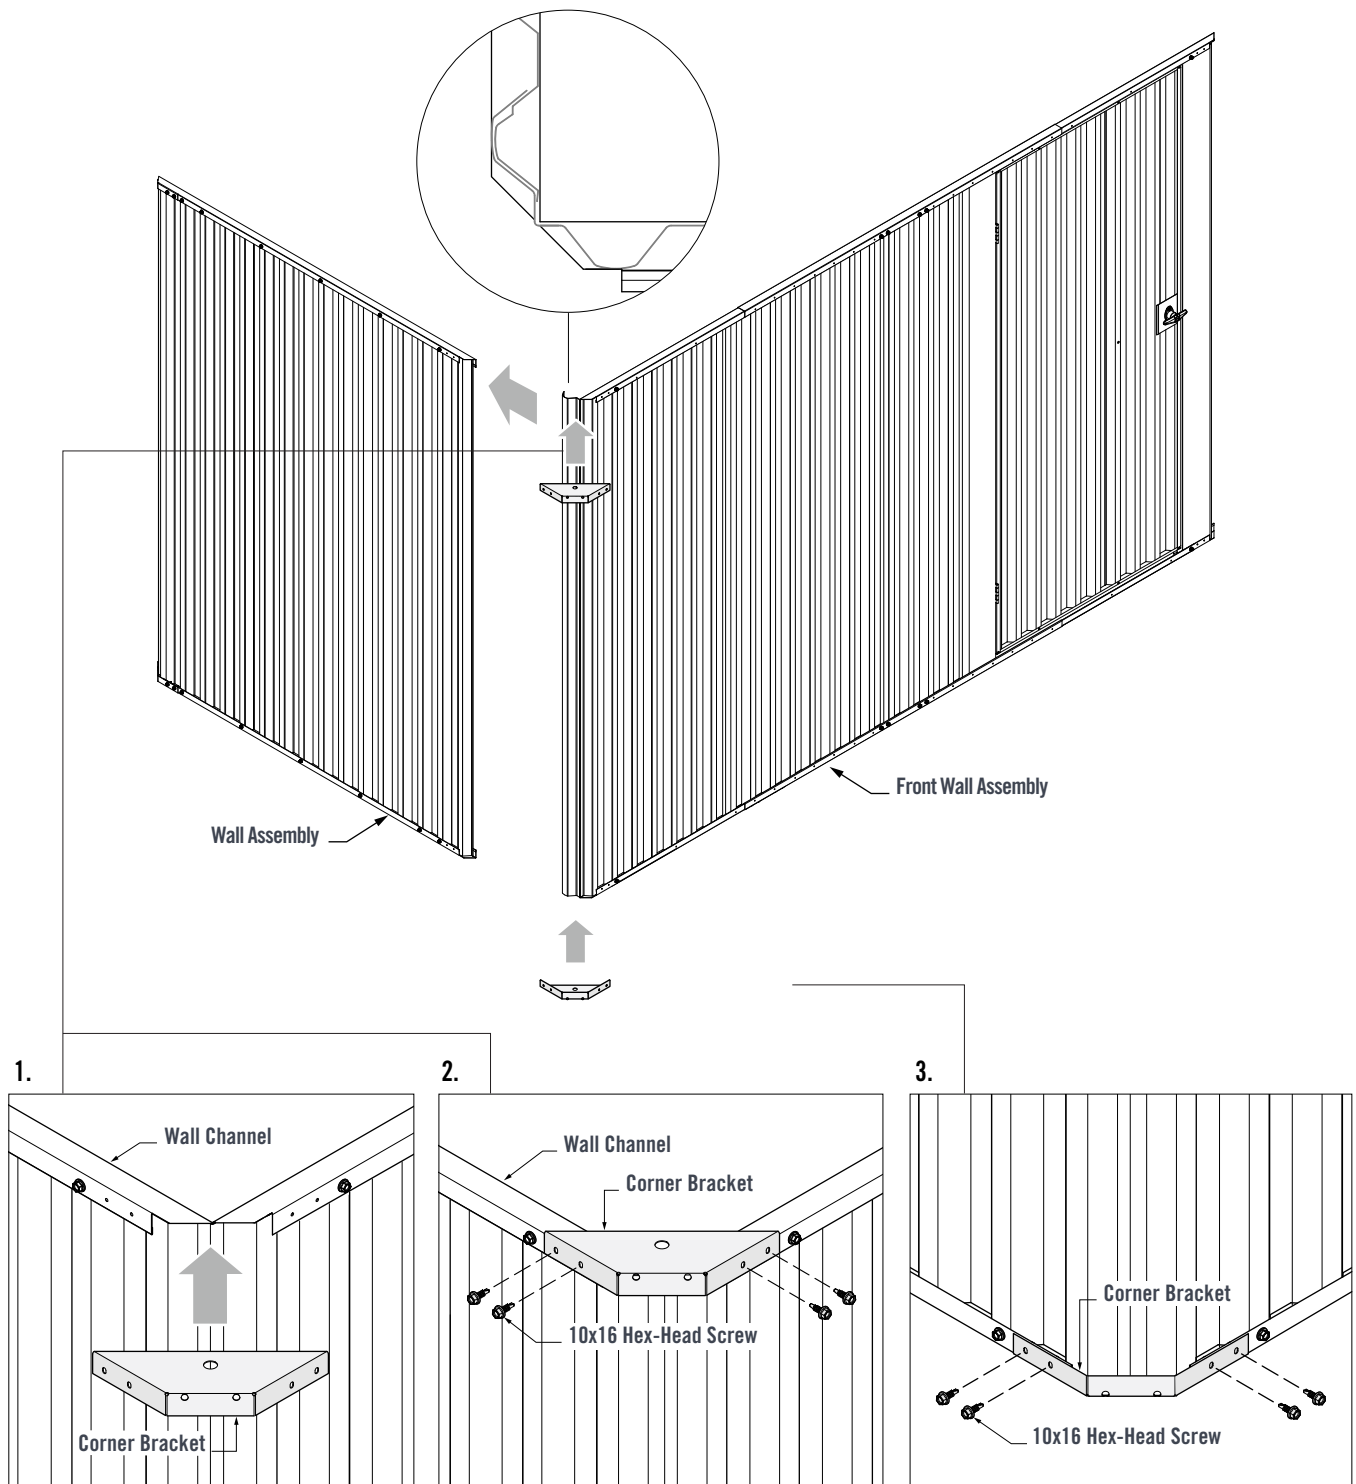

FIGURE 5.0
The wall assemblies can now be joined together. Fit the Corner Wall Sheet of the Front Wall over the Side Wall Sheet. Ensure the Corner Sheet fits inside the Side Wall Channels (Figure 5.0).
3. Fit a Corner Bracket to the bottom Wall Channels. Fasten through the Corner Bracket pilot holes and into the bottom Wall Channels using four 10x16 Hex-Head Screws (Figure 5.0).
Fit the Remaining Wall Assemblies together with Corner Brackets as per Figure 5.0.